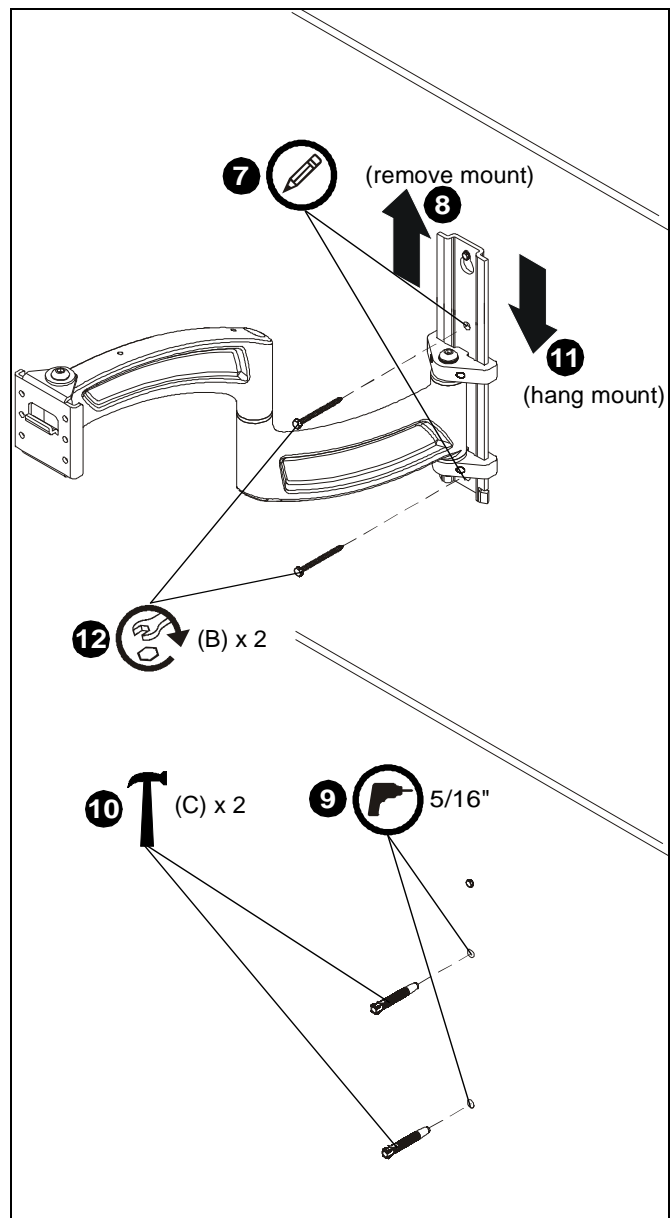

Figure 4
7. Mark two holes at lower mounting hole locations. (See Figure 4)
8. Remove arm assembly (Z) from wall.
9. Drill two 5/16" holes at marked locations. (See Figure 4)
10. Install two concrete anchors (C) into holes. (See Figure 4)
11. Hang arm assembly (Z) back onto wall.
12. Install two 1/4 x 2 1/2" lag bolts (B) into concrete anchors (C) to secure mount to wall. (See Figure 4)
13. Tighten all lag bolts (B) to fully secure mount to wall.